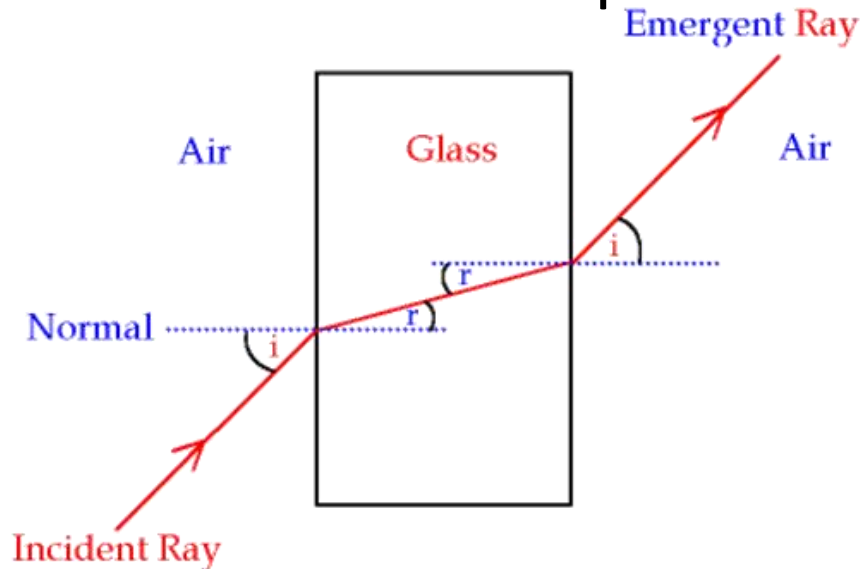

Fig. PF-7-1-7
- Principle is used extensively in optics, e.g., lenses, lighting e.g., diffusers and fibre-optic cables. See **Fig. PF-7-1-7** for concept of refraction.